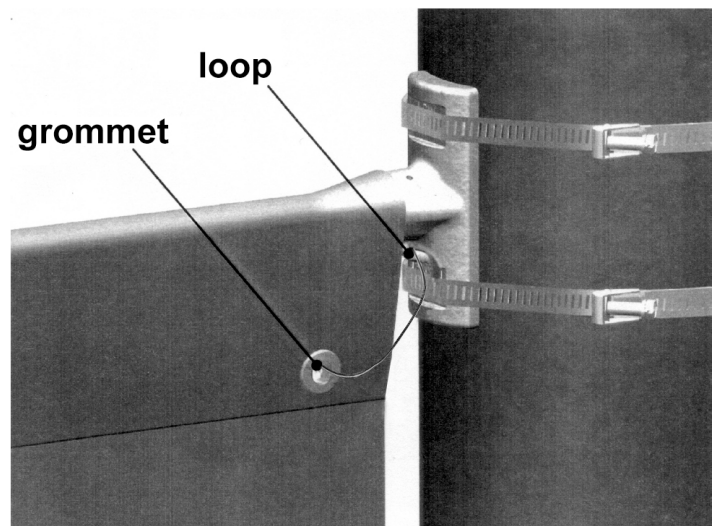

Figure 2
- ❻ Insert the #18 Gauge Wire Tie through grommet(s) banner(s). Either put through the loop in the casting(s) or wrap around the utility pole and secure. **See Figure 2.** This must be done to secure the banners to the pole. (POSITION WIRE TIE ENDS AWAY FROM BANNER TO AVOID DAMAGE TO FABRIC).